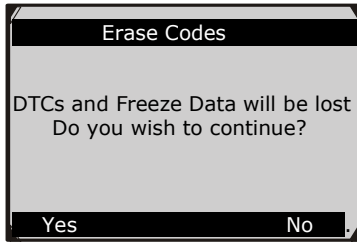

Figure 6.7
- If you press **Yes** function button or **OK** button, a warning message will come up asking your confirmation (Figure 6.7).